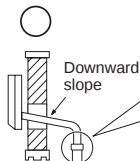

Figure 2
- The drain hose should point downward for easy drain flow. (Figure 2)